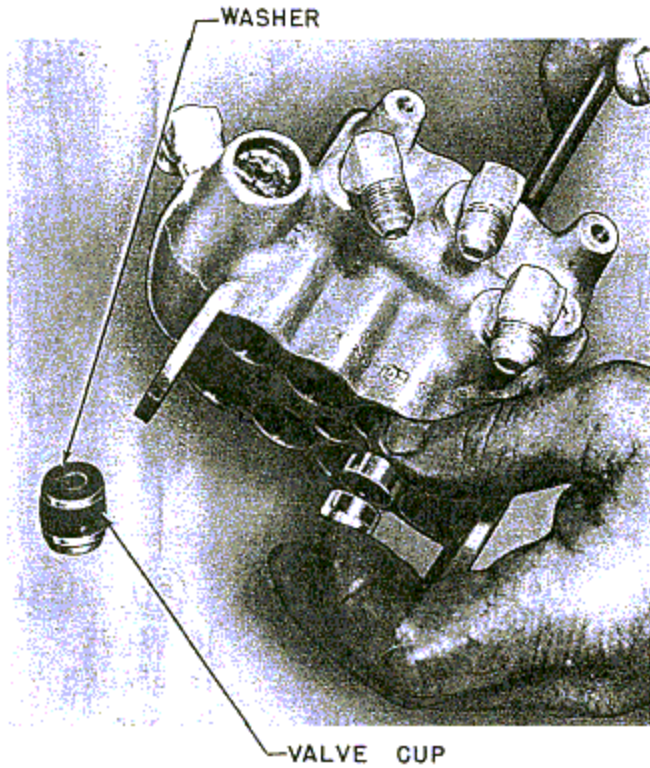

Figure 237—Removing Valve Cups and Washers from Valve Body
14. After all valves have been removed, free the valve body from the vise and lay it on the bench so that a small diameter bar or screwdriver may be inserted from the bottom side of the valve body. Push the assemblies consisting of a top and bottom washer, two rubber cups, and a spacer out of the valve body. (See figure 237.)